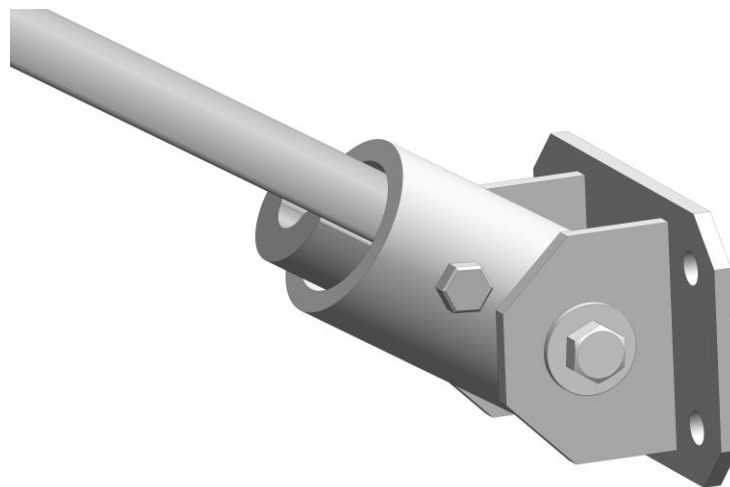

Figure 4
7. Remove the *Bow Receiver Mounting Bolt* from one end, position this end of the *Bow Receiver* in one of the *Bow Bracket Mounts* and reinstall the bolt and nut finger tight (see Fig. 4).